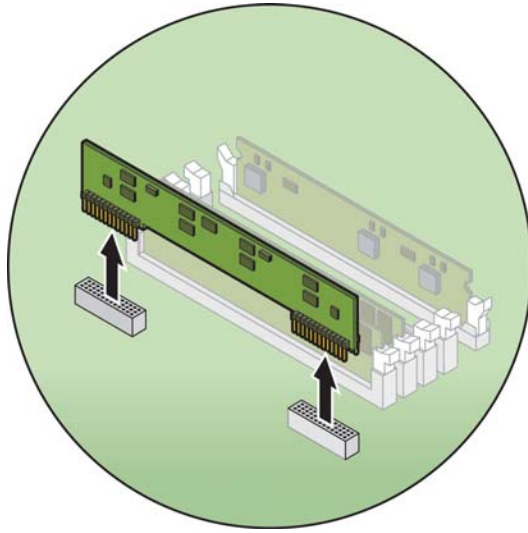

FIGURE 5-26 Removing a CPU VRM
4. Remove the CPU VRM by pulling it straight up, out of its socket (see FIGURE 5-26).
6. Remove the CPU VRM by pulling it straight up, out of its socket (see FIGURE 5-26).